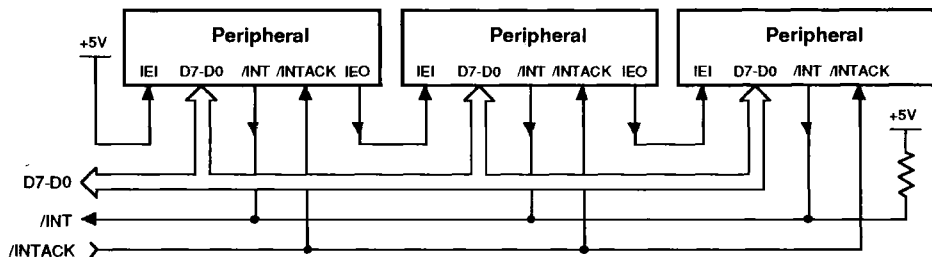

Figure 10. SCC Interrupt Priority Schedule
**/SYNCA, /SYNCB.** *Synchronization* (inputs or outputs, active Low). These pins can act either as inputs, outputs, or part of the crystal oscillator circuit. In the Asynchronous Receive mode (crystal oscillator option not selected), these pins are inputs similar to /CTS and /DCD. In this mode, transitions on these lines affect the state of the Synchronous/Hunt status bits in Read Register 0 (Figure 10) but have no other function.
The other two bits are related to the interrupt priority chain (Figure 10). As a microprocessor peripheral, the SCC may request an interrupt only when no higher priority device is requesting one, e.g., when IEI is High. If the device in question requests an interrupt, it pulls down /INT. The CPU then responds with /INTACK, and the interrupting device places the vector on the data bus.